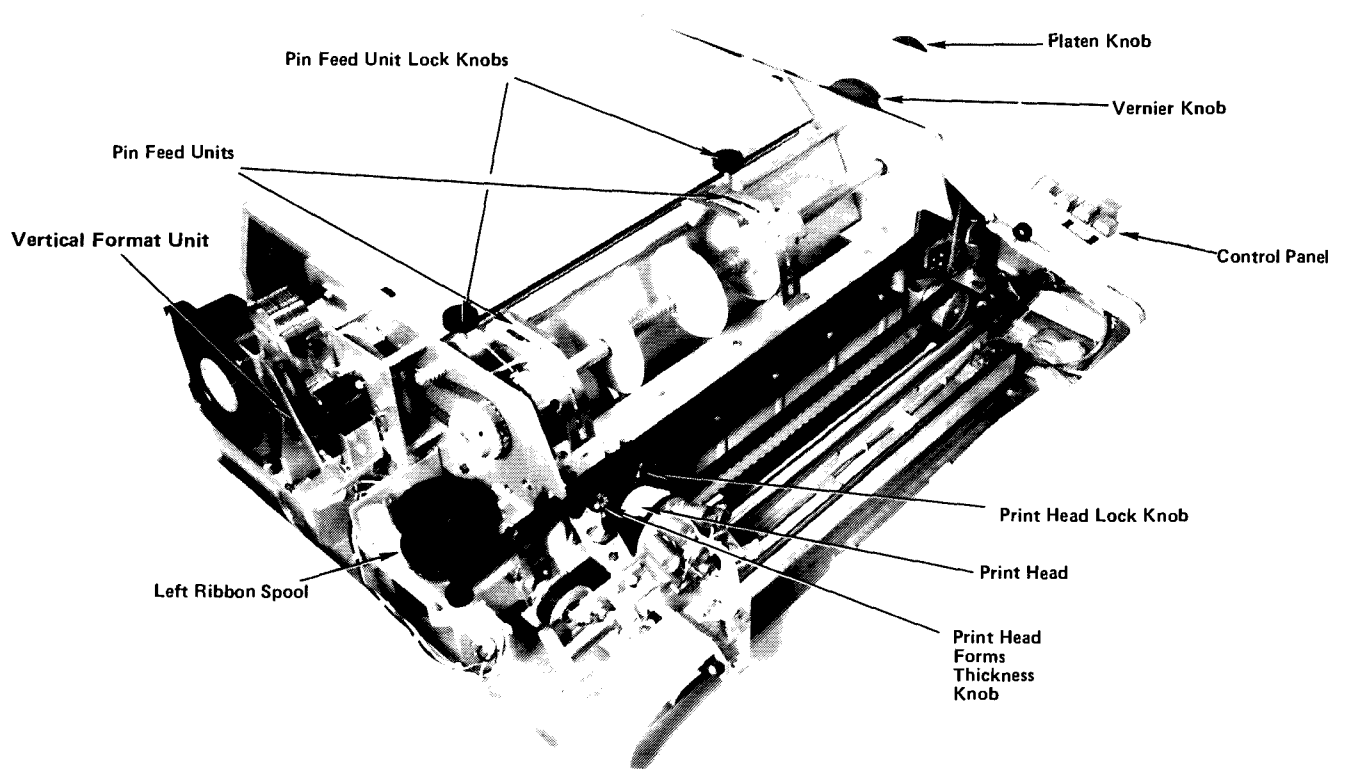

Figure 1.3 The Model 2221W Line Printer, Definition of Terms
1. Push continuous-form pin-feed paper into the slot in the top of the printer until it comes out between the pin-feed mechanisms (see Figure 1.3).
2. Open the front cover of the Printer and find the Print Head (see Figure 1.3).